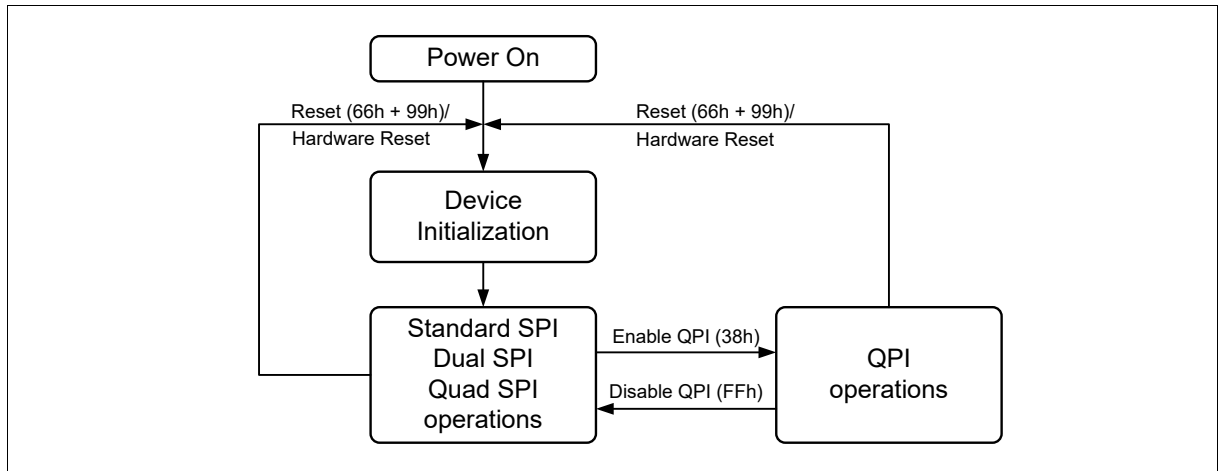

Figure 4 FM25Q128A Serial Flash Memory Operation Diagram
The FM25Q128A supports Quad Peripheral Interface (QPI) operations only when the device is switched from Standard/Dual/Quad SPI mode to QPI mode using the “Enable QPI (38h)” instruction. The typical SPI protocol requires that the byte-long instruction code being shifted into the device only via DI pin in eight serial clocks. The QPI mode utilizes all four DQ pins to input the instruction code, thus only two serial clocks are required. This can significantly reduce the SPI instruction overhead and improve system performance in an XIP environment. Standard/Dual/Quad SPI mode and QPI mode are exclusive. Only one mode can be active at any given time. “Enable QPI (38h)” and “Disable QPI (FFh)” instructions are used to switch between these two modes. Upon power-up or after a software reset using “Reset (99h)” instruction or hardware reset, the default state of the device is Standard/Dual/Quad SPI mode. To enable QPI mode, the non-volatile Quad Enable bit (QE) in Status Register-2 is required to be set. When using QPI instructions, the DI and DO pins become bidirectional DQ₀ and DQ₁, and the WP# and HOLD# pins become DQ₂ and DQ₃ respectively. See Figure 4 for the device operation modes.